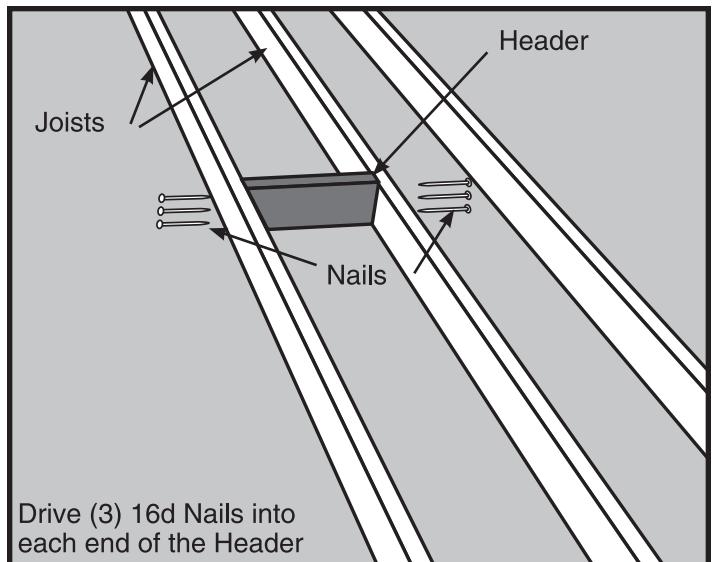

Figure 12
**STEP 3.** Place one of these headers at one end of your chosen location (See Figure 12). The header must fit snugly between the joists.
**STEP 4.** Square the header to one joist and drive (3) 16d nails through the joist and into the header. Check for squareness and drive (3) 16d nails through the other joist and into the header (See Figure 12). **It is very important that header board is vertically plumb as well as horizontally square to side joists.**